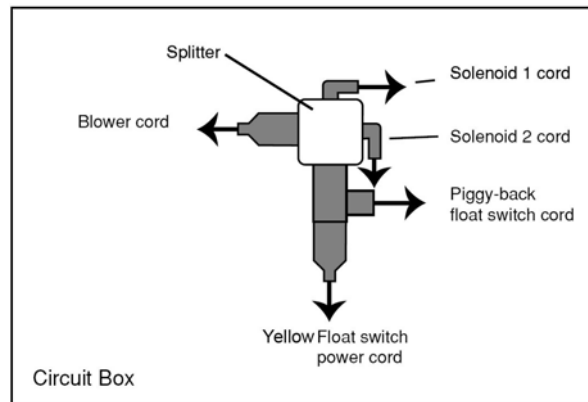

Figure 2 – Circuit Box Wiring Connections
11. Open the white circuit box on top of the unit. See Fig. 3 for location of circuit box. (To open the top of the box, unscrew each of 4 screws and lift cover off.) Plug in the following cords as shown in Fig. 2.